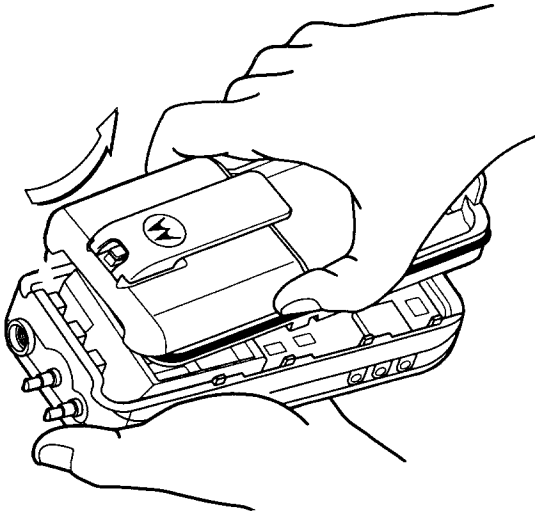

Figure 1-5. Remove Back Cover
4. Grasp back cover, by bottom wall, and lift out of housing (Figure 1-5).